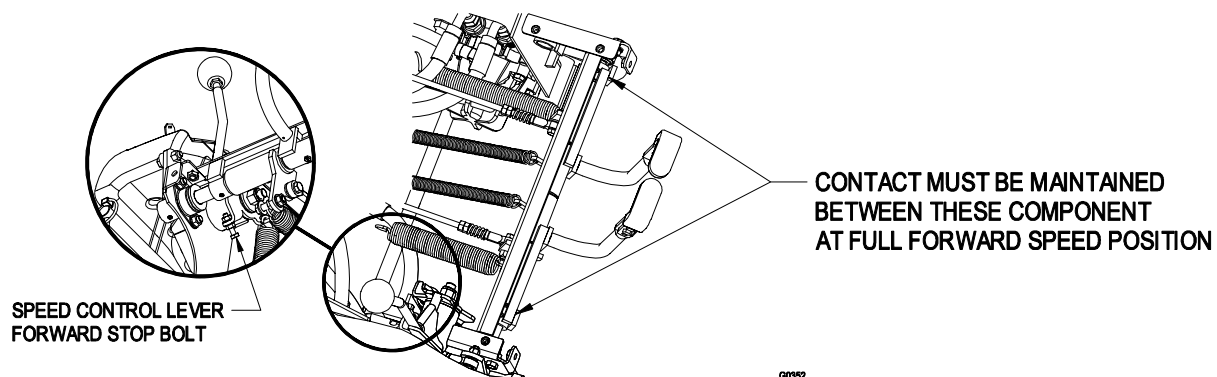

FIGURE 17
- c) If either steering control lever surface does not contact the stop bar at the full forward speed position, adjust the stop bolt until contact occurs. See Figure 17. Once contact occurs, turn the stop bolt one more full turn to prevent bottoming of the hydraulic pump internal stops.